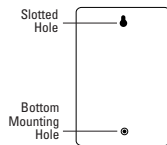

FIGURE 22: Back of Timer Box
- Slip the slotted keyhole in the back of the Controller over the extended upper screw and allow the lower screw to recess into the lower hole in order to prevent the Controller from swinging. [See Fig. 22].
- Use a punch to create a hole in the blind Bottom Mounting Hole on the back of the controller box [Figure 22: Bottom Mounting Hole].
- Slip the slotted keyhole in the back of the controller box over the extended screw [Figure 22].
- Push a No. 8 screw (included) through the Bottom Mounting Hole [Figure 22] in the controller box and tighten until the box is held firmly to the wall, but do not over-tighten.